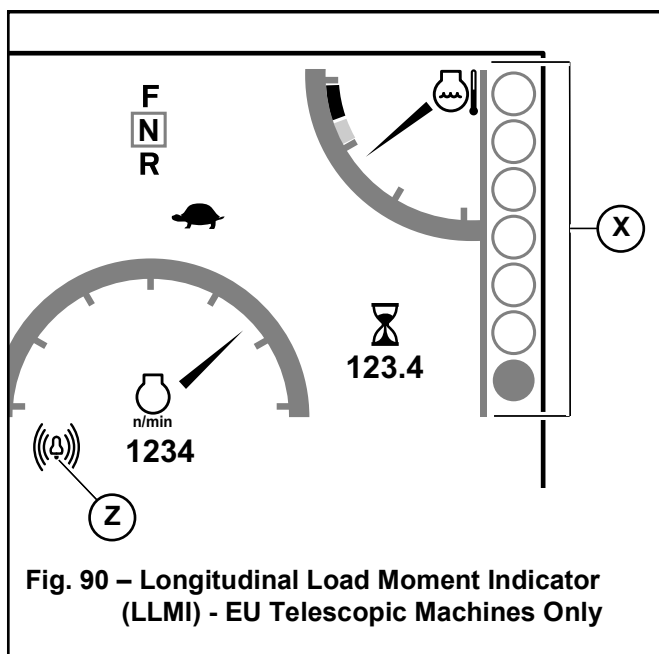

Fig. 90 – Longitudinal Load Moment Indicator (LLMI) - EU Telescopic Machines Only
- A sight gauge (X, Fig. 90) located along the right edge of the multi-function display status screen.
The LLMI sight gauge (X, Fig. 90) indicates decreased machine capacity as the indicator moves up the scale from green through orange to red. The LLMI audible alarm also increases in frequency as the capacity decreases.